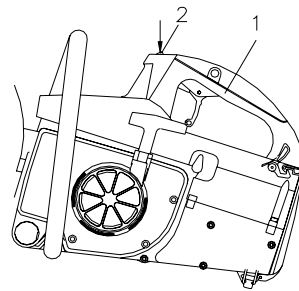

Fig. 8
4. Emergency stopping (Ref. Fig.8):